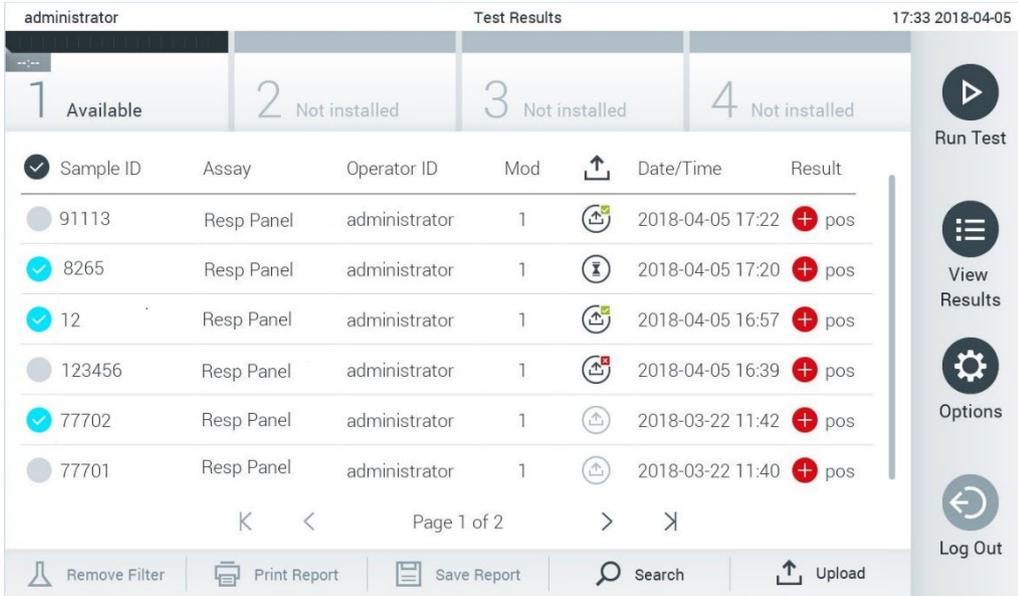

Figure 88. View Results screen.
To upload the result from the **View Results** screen, select one or more test results by pressing the **gray circle** to left of the sample ID. A **checkmark** will appear next to selected results. To deselect test results, press the **checkmark**. The entire list of results can be selected by pressing the  checkmark circle in the top row. After selecting the results for upload, press the  Upload **Upload** button (Figure 88).
2. Turn on the EC Test toggle button (Figure 88).
3. When prompted, scan the sample ID barcode using the bar code reader that is integrated into the Operational Module (Figure 88)